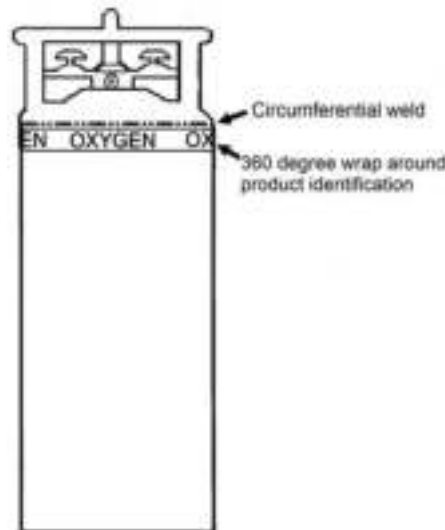

Figure F-1: Example of industrial cryogenic identification
F.1.2 The identification should be sized (minimum 51 mm[2 in] high letters) and spaced so that it is visible from all sides when not obstructed. Placement should be horizontal and just below the upper circumferential weld adhering to the cylinder sidewall. See Figure F-1 for an illustration of the decal (oxygen is used as an example).